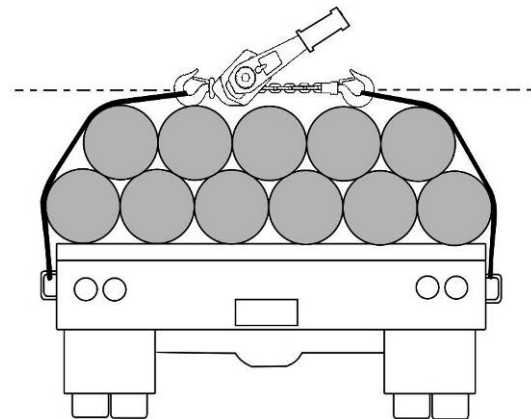

Figure 10
- When using a wire rope sling, the puller must be applied along a straight line parallel to the surface on which it is resting (Figure 10).